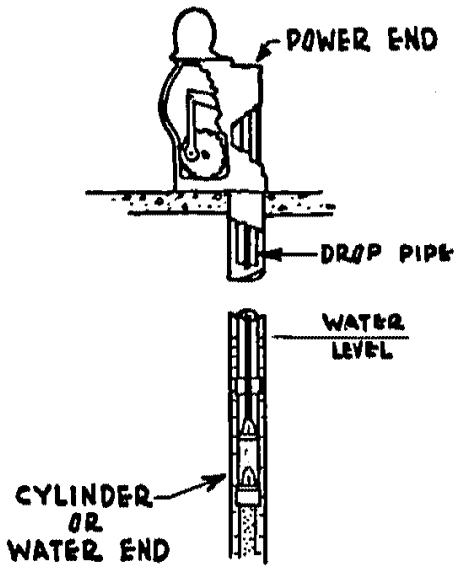

Fig. 3 - Deep Well Pump
2. Deep Well Operation: The deep well operating pump is one in which the driving mechanism (or power head) is separate from the pumping mechanism (or cylinder). The deep well operating pump must be located directly over the top of the water source, with the cylinder or pumping mechanism either submerged or within the suction lift (22 feet) of the water, as indicated in Figure 3. Due to the fact that the water table level changes at different seasons of the year it is best to have the cylinder in or very close to the water.